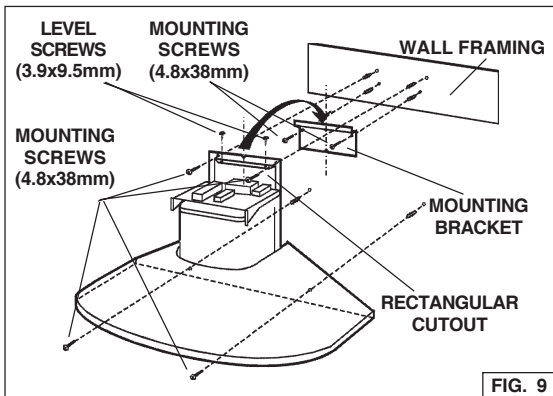

FIG. 9
3. Align the rectangular opening on the back of the hood with the wall-mounting bracket. Gently lower the hood until it securely engages the bracket. Fig. 9
4. Level the hood with (2) screws (3.9x9.5mm) and secure with (4) mounting screws (4.8x38mm). Use drywall anchors provided if wall studs or framing are not available. Fig. 9